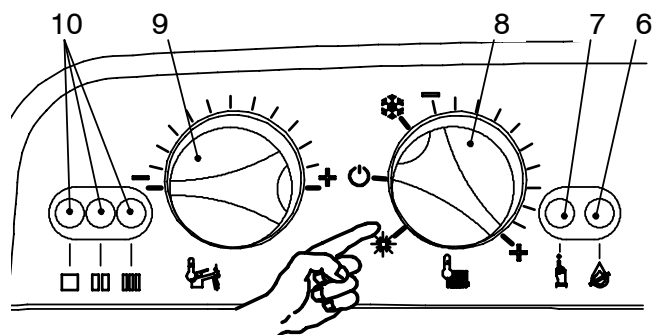

Fig. 7.5
- 3 Turn the boiler ON positioning the control selectors 8 in the positions as shown in as in Fig. 7.5 and ensure that the timer selector switch and room thermostat, if fitted, are set to "heat demand".
lector 8 to the OFF position and then back to that indicated in Fig. 7.5.